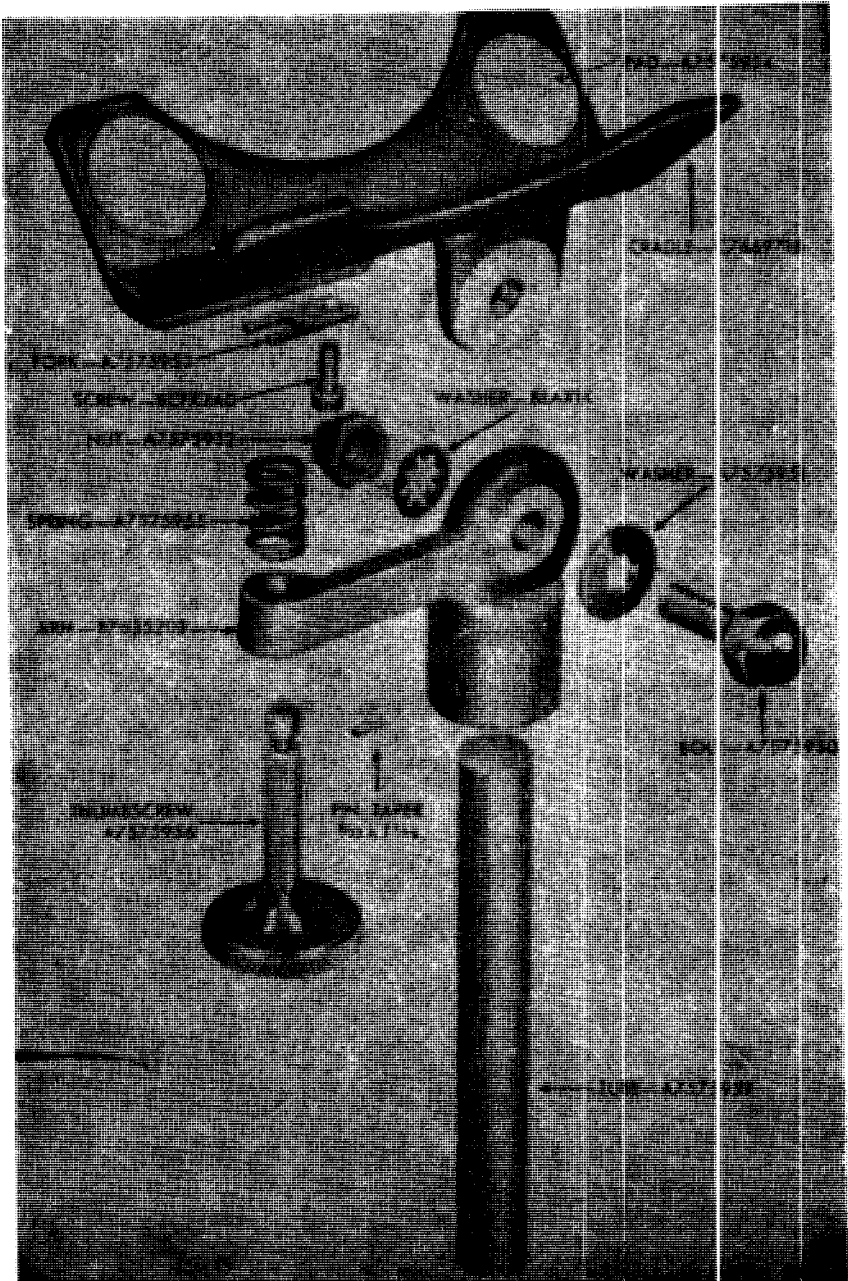

Figure 26-Tripod M15-Cradle Assembly-Disassembled
b. Disassembly of the Cradle Assembly. Remove nut and lock washer from end of bolt A7575950. Drive out the bolt and remove washer A7575951 (fig. 26). Take out the elevating thumbscrew A7575956. Take off the cradle, at the same time removing the compression spring from between the arm and the cradle. Take out screw BCFX2AD and remove the fork that it holds. Drive out the taper pin that secures the tube to the arm and remove the tube.